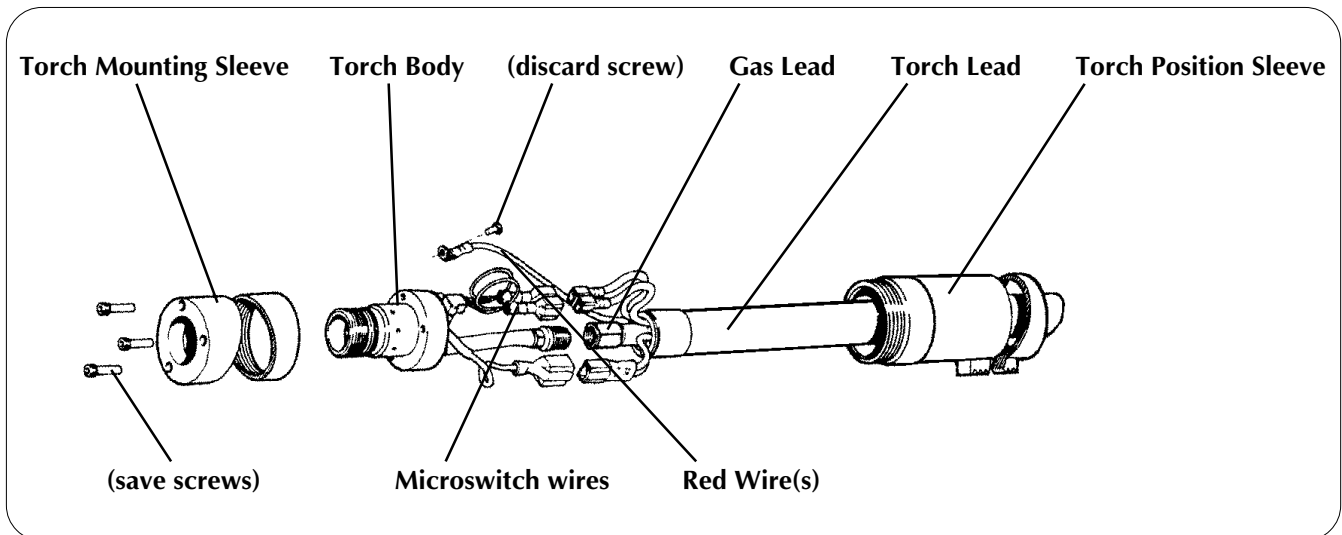

Figure 1 PAC121M/40cs Torch Body Removal
7. Attach the torch mounting sleeve to the torch body by securing the 3 screws to the torch body (Figure 1). Torque to 7 in. lbs.